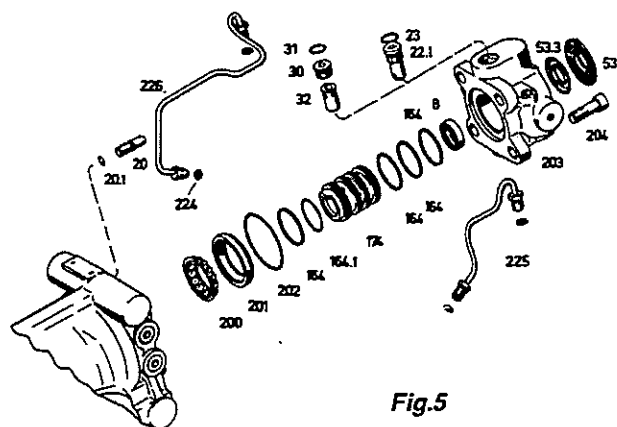

Fig.5
Remove protecting cap (53) and gasket (53.3) (*Fig.5*).